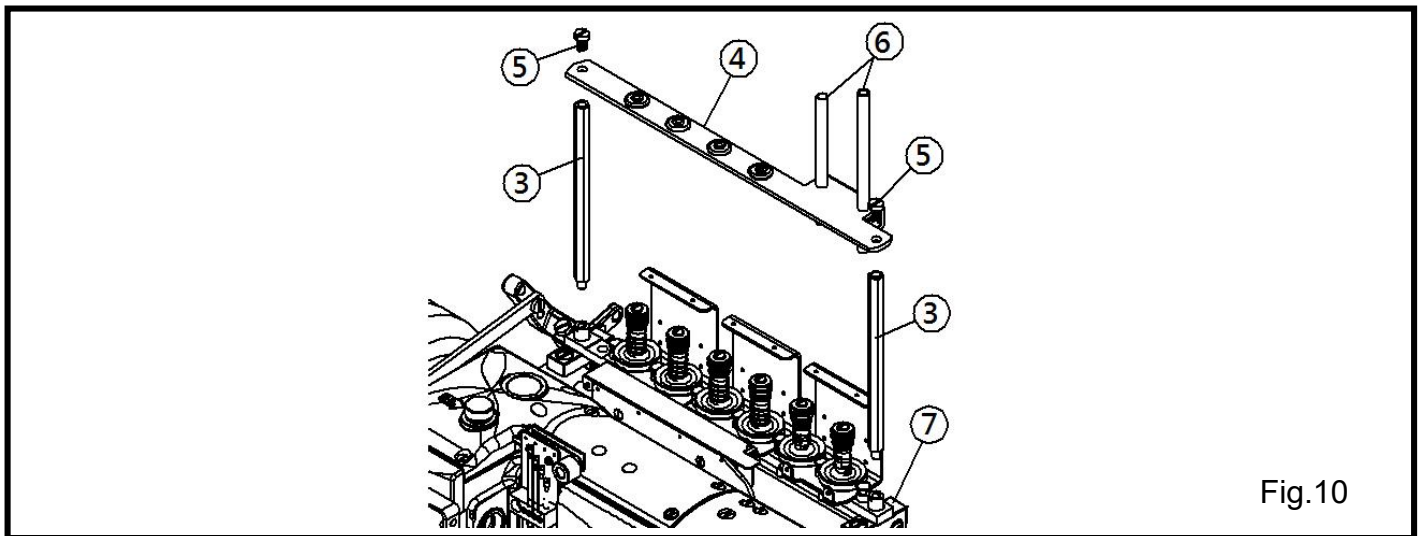

Fig.10
將線架支柱③裝在線架固定座⑦，再將過線架④用螺絲⑤鎖在線架支柱③，調整過線桿⑥，使穿線平順，不致於線會糾結在一起。(Fig.10)
Adjust the thread pipes⑥ to thread smoothly without entangling. (Fig. 10)